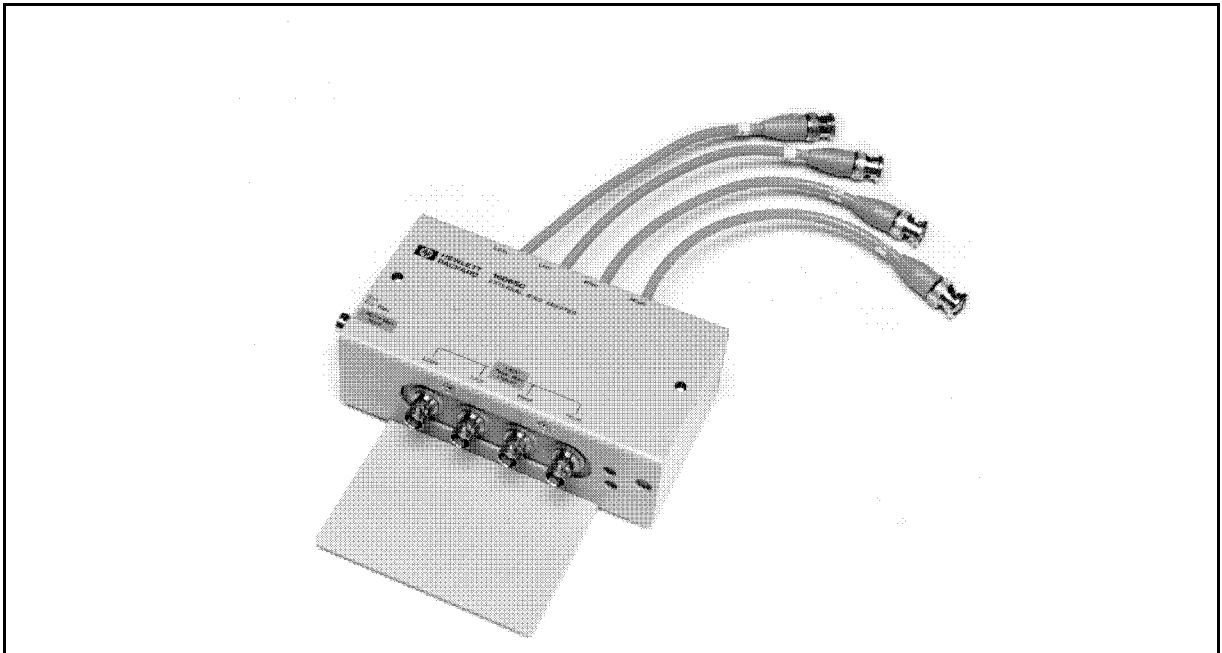

Figure 2-1. Product Overview
2. Verify that the shipping container contains everything shown in Figure 2-1 and listed in Table 2-1.
2 Operation and Service Manual is not shown in Figure 2-1.